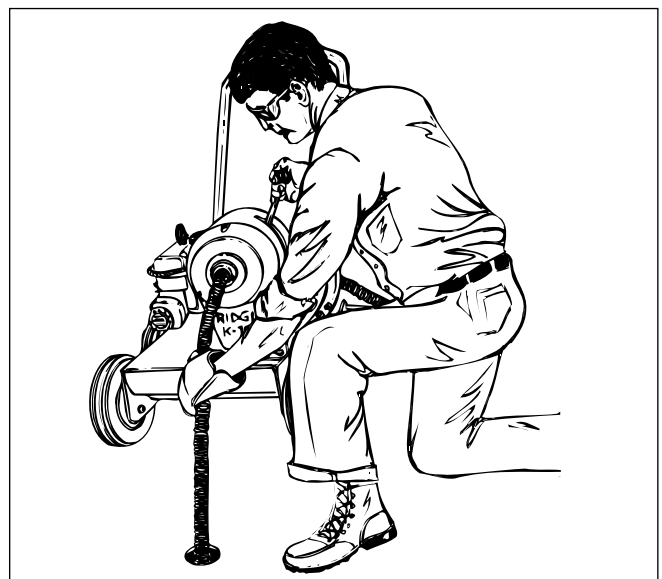

Figure 5 – Operating Drain Cleaning Machine
2. To start through a 4" "P" Trap, push cable by hand as far as it will go. (Figure 5)